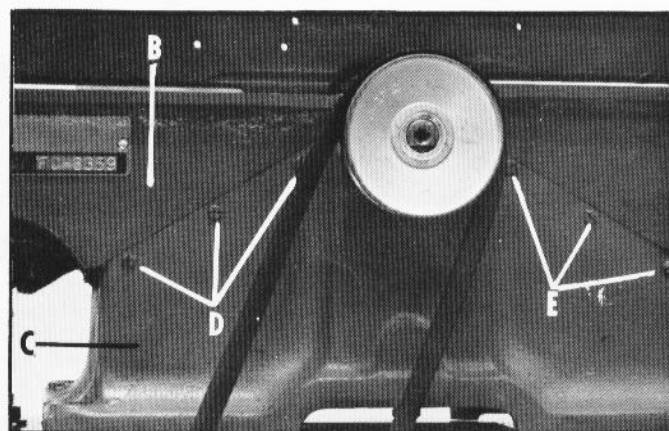

Fig. 28
1. Loosen all three gib adjusting screws (D) Fig. 28.
2. Proceed to retighten the three gib adjusting screws (D) starting with the lowest screw first and as you proceed toward the top, raise up gently on the outboard edge of the table being adjusted. This will offset any tendency of the table casting to "droop" or "sag" and permit the gib to be brought up to a good secure fit. The outfeed table gib is adjusted in the same manner with the gib adjusting screws (E) Fig. 28.